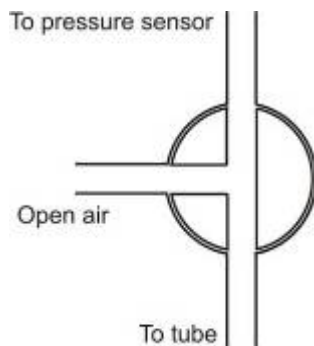

Figure 1: Three-way valve – Position A
2. (If your setup includes three-way valves) Turn the three-way valves to enable free air flow from the surrounding air (Position A – see Figure 1).